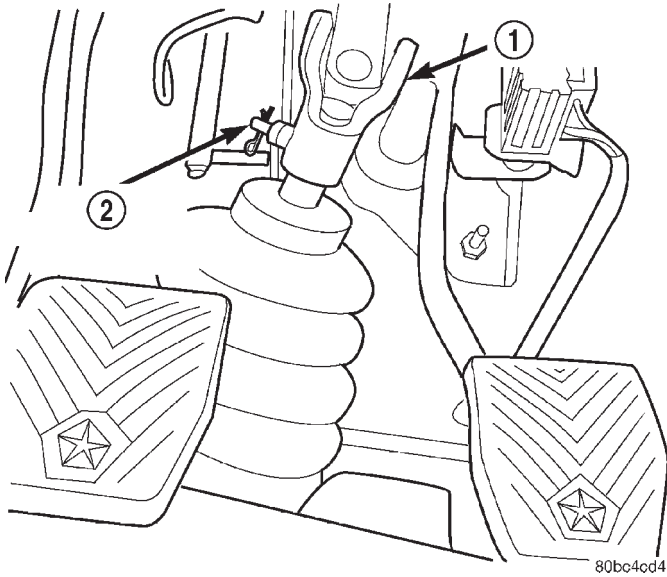

Fig. 21 Steering Shaft Coupler Pinch Bolt
(20) Install the steering shaft coupler pinch bolt (Fig. 21). Torque the bolt to 28 N·m (250 in. lbs.).
(21) Install the steering shaft coupler pinch bolt retaining pin (Fig. 21).
(22) Connect the clockspring, wiper / washer, multi-function, ignition and if equipped, the two skim module connections and the shift interlock cable on automatic transaxle equipped vehicles.
(23) Install the steering column shrouds. Torque the retaining screws to 1.4 N·m (12in. lbs.)
(24) Install the lower steering column cover.